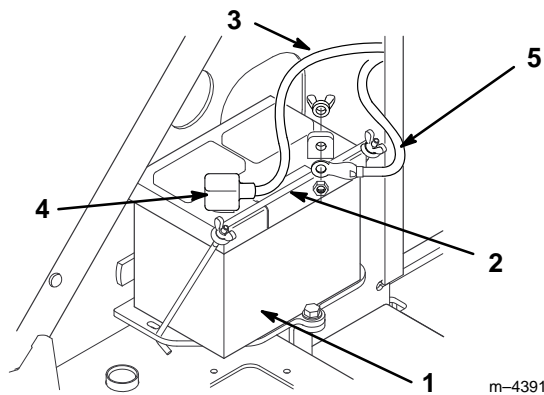

Figure 4
2. Remove the wing nuts and bar securing the battery (Fig. 4).
9. Install the battery into the chassis (Fig. 4).
10. Secure the battery in the chassis with the bar and wing nuts removed previously (Fig. 4).
11. Using the bolt and wing nut supplied with the battery, connect the positive (red) cable to the positive (+) battery post (Fig. 4). Slide the rubber cover over the battery post.
12. Using the bolt and wing nut supplied with the battery, connect the negative (black) cable to the negative (–) battery post (Fig. 4).